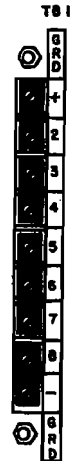

FIG. 3-1
3-2 **GENERAL.** The JQE ¼ Rack Power Supply is shipped from the factory with five (5) removable jumper links in place at the rear barrier strip (TB1) as shown in FIG. 3-1. THESE LINKS MUST BE IN PLACE AND SECURED TIGHTLY for standard local operation. Loose terminal links or loose wires at the barrier strip will cause malfunction of the power supply.